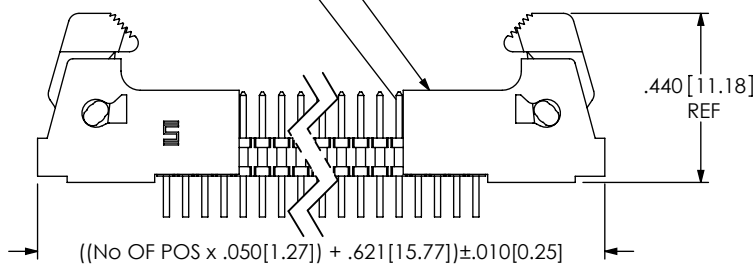

FIG 4
-EC: LOCKING CLIP (SEE FIG 4, SHT 2; SEE NOTE 8)